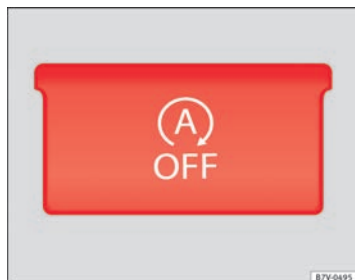

Fig. 140 Detailed view of the centre console: Start-Stop function button
- Press the  button on the centre console ⇒ Fig. 140.